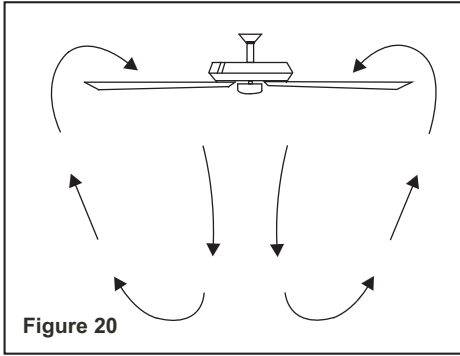

Figure 20
**Warm weather** - (Counter-Clockwise direction) A downward air flow creates a cooling effect.(Fig. 20) This allows you to set your air conditioner on a higher setting without affecting your comfort.